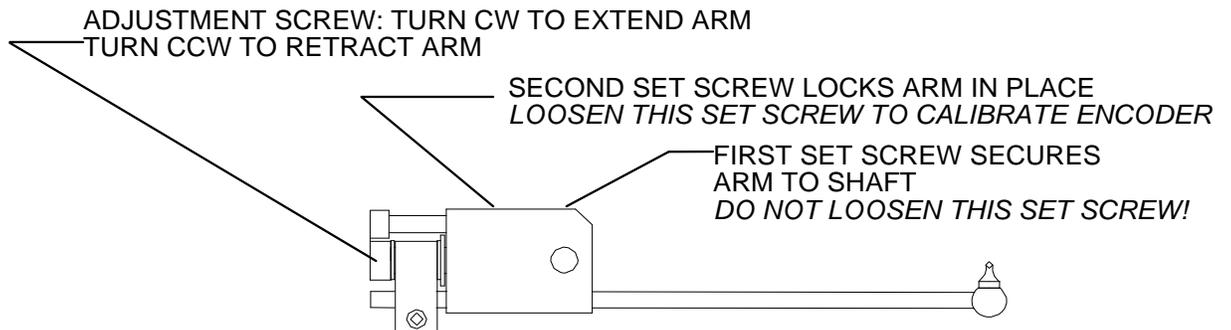
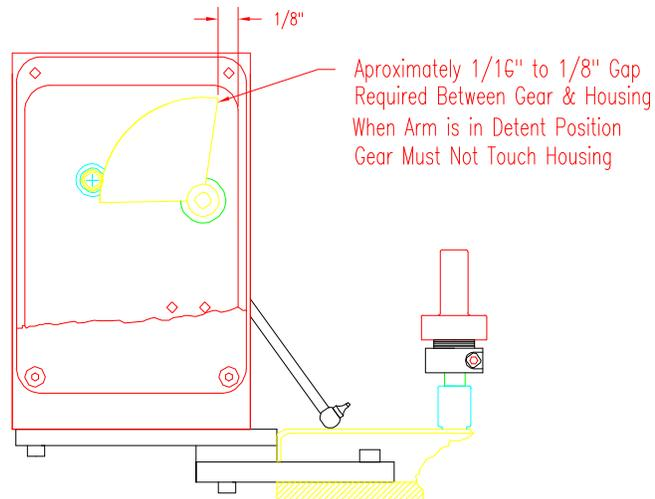

Figure 1
Figure 2
Installation Steps (See Figure 1);
Loosening the arm set screw shown in Figure 1 (5/64" Allen Wrench). *Be sure to loosen the proper set screw, otherwise the entire arm will come loose from the shaft. If the first set screw is accidentally loosened then the left cover must also be removed and the first set screw retightened when the arm is in the full down position when the gear is oriented as shown in Figure 2.* The second set screw has been locked with removable Loctite[®] and may be stiff. After loosening the second arm set screw, determine how far the adjustment screw on the arm (see Figure 1) must be turned by using Table 1 & the results from step 3. For example if the difference in the micrometer head readings from step 3 yielded 25.45mm,
5. Recheck the encoder calibration by repeating the micrometer measurements in steps 2 & 3. If further adjustment is required then again use Table 1 to determine the appropriate degrees of movement. Repeat this process until the arm is calibrated. Once the arm is calibrated, secure the arm in place by re tightening the second arm set screw (see Figure 1). Apply removable thread locker (Loctite type 290 or equivalent). Reinstall the cover and tighten all hardware.